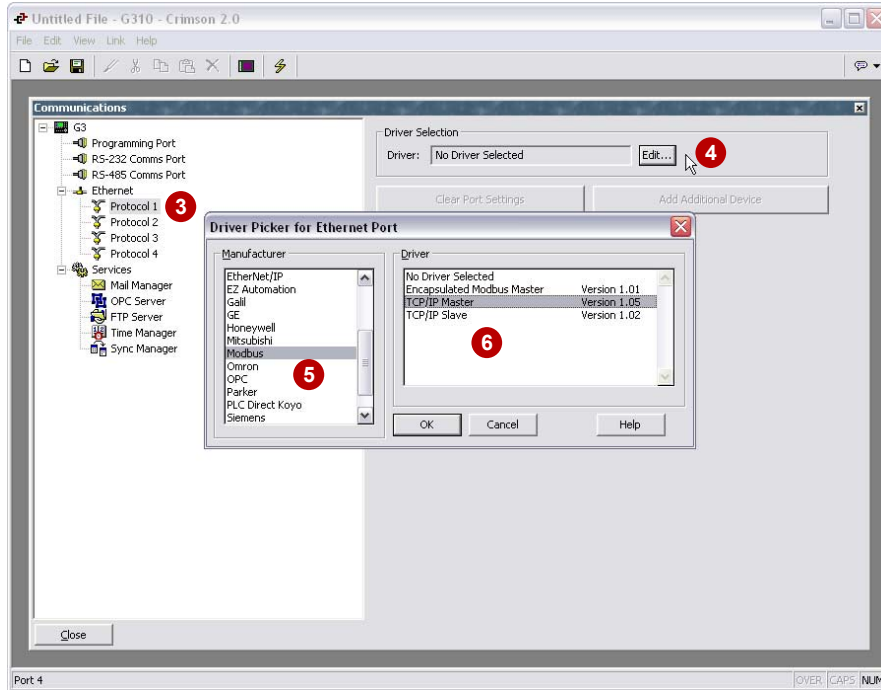

Figure 6
6. Select TCP/IP Master driver as shown in Figure 6